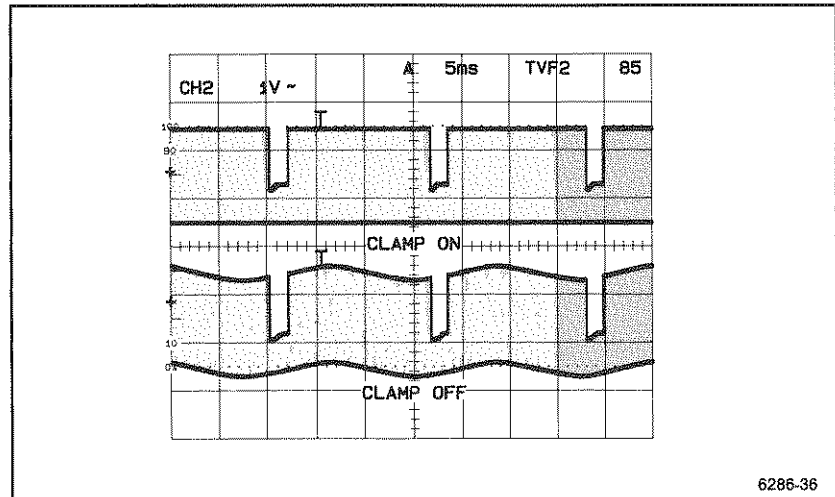

Figure 7-1. Composite video signal with and without TV clamping.
- h. With the CH 2 back-porch CLAMP enabled, observe that the ac hum on the waveform has been eliminated. (See Figure 7-1.)